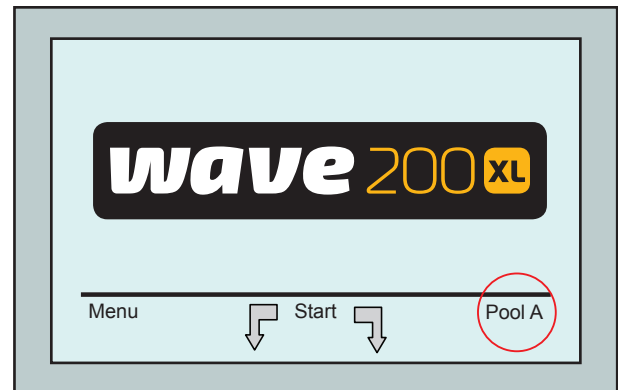

Figure 4: Wave screen showing Pool A as default setting
1. Go to the Wave screen. Pool A is displayed as the currently defined setting as shown in Figure 4.